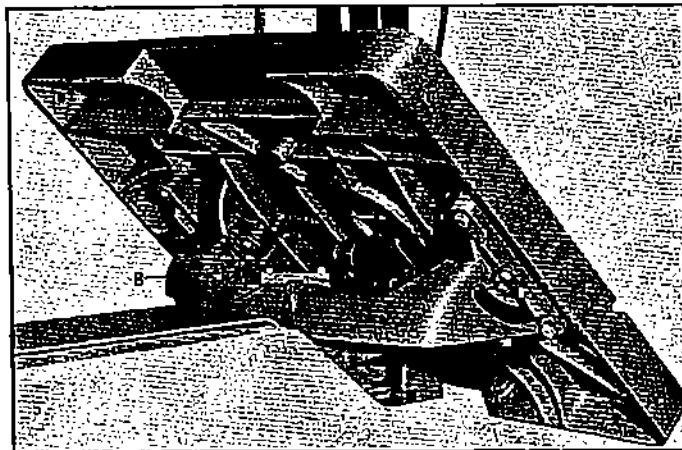

Fig. 8
The table may be tilted 45 degrees to the right and 12 degrees to the left. To tilt the table to the left, first tilt it to the right, swing the stop bar (A) Fig. 8, to the rear for clearance, and tilt the table to the left to the desired angle.
2. If the table is not square, left to right, loosen nut (B) Fig. 8, and adjust the set screw (C) up or down as the case may be until the table is square and tighten nut (B).